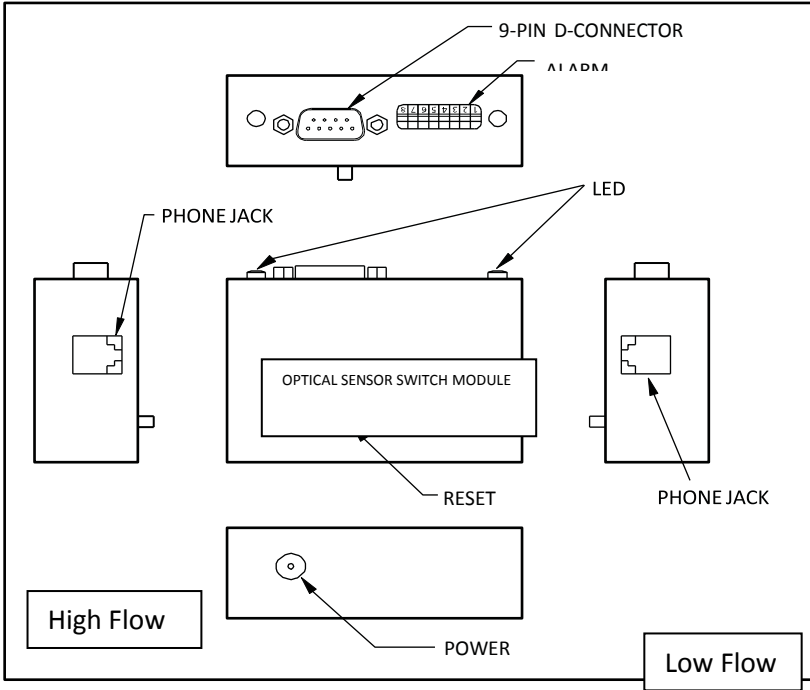

Figure 1: OSSM module
The Optical Sensor Switch gets a power through the OSSM module. The module could be powered up either by a +12+15 VDC power supply with a minimum current rating of 250 mA, or by the 9-pin D-connector (DB9M) (Fig. 1) for momentary or latch operations.
- 3.1. Insert the LOW flow sensor's plugs into the splitter, then the splitter's plug into the module's phone jack #1 (Fig. 1).
splitter's plug into the module's phone jack #2 (Fig. 1).
3.3 Connect the power supply through the power jack (Fig. 1).
Attach the 9-pin D-connector to the module (fig. 1 & 2).